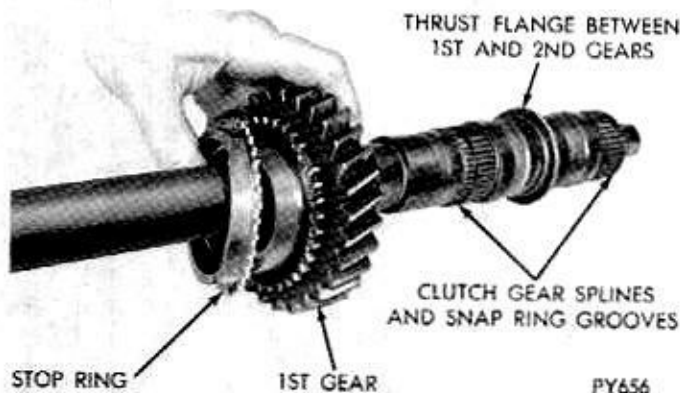

Fig. 23—1st Gear and Stop Ring—Removal or Installation
(10) Remove 1st gear and its stop ring from mainshaft (Fig. 23).
(14) Slide 1st gear and stop ring over rear end of mainshaft and against flange which separates 1st and 2nd gears (Fig. 23).